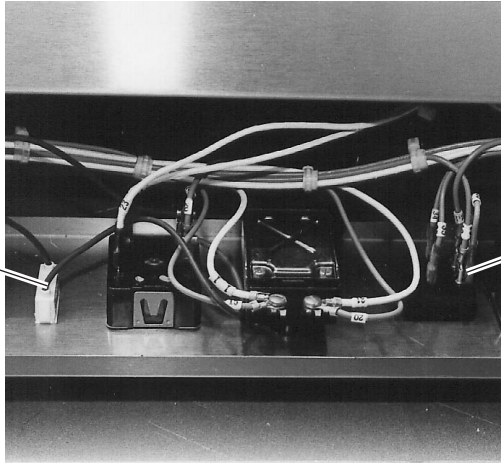

Fig. 11
3. Locate the light from the rear of the cover. (Fig. 11)